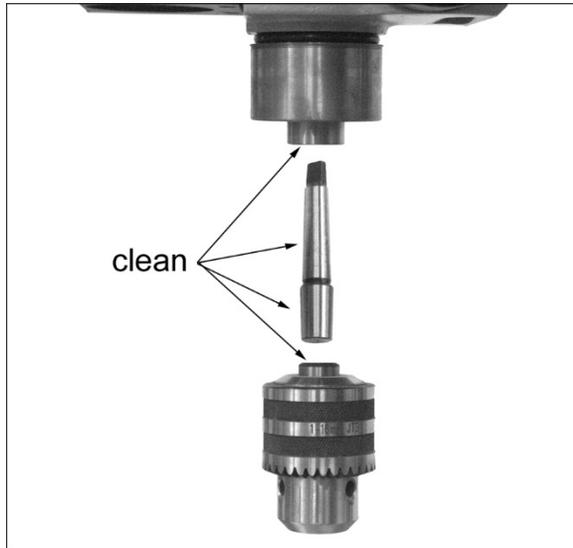

Figure 6-15
1. Thoroughly clean entire arbor and inside of chuck (Figure 6-15) with a soft rag and solvent, such as mineral spirits. Any grease or residue in these areas can cause the pieces to separate, creating a safety hazard and potential damage to the tool.